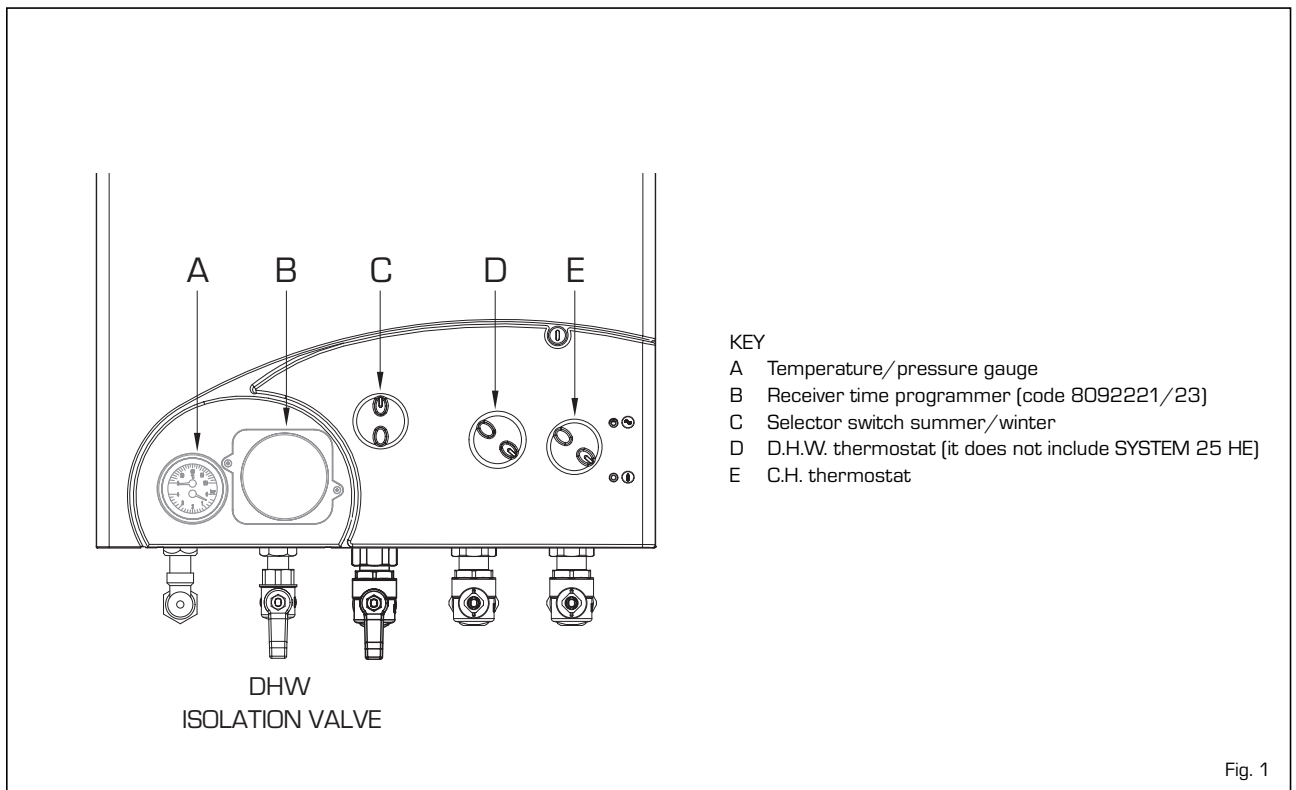

Fig. 1
1.3.1 To light the appliance (see fig. 1)
- Turn the selector switch summer/winter (C) to SUMMER (water only) position "☀".
1.3.2 To turn off the appliance (see fig. 1)
The gauge (A fig. 1) on the fascia panel indicates the approximate system pressure. The normal operating pressure is between 1 and 1.5 bar. If the normal running pressure is seen to decrease over a period of time there is a water leak and you should consult your installer or service engineer.